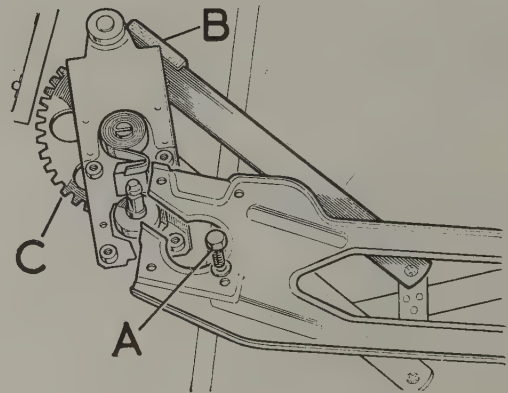

Fig. 12.20. Removing window regulator
- 4 Unscrew and remove the four bolts and spring washers "A" which secure the window regulator mechanism (Fig. 12.20).